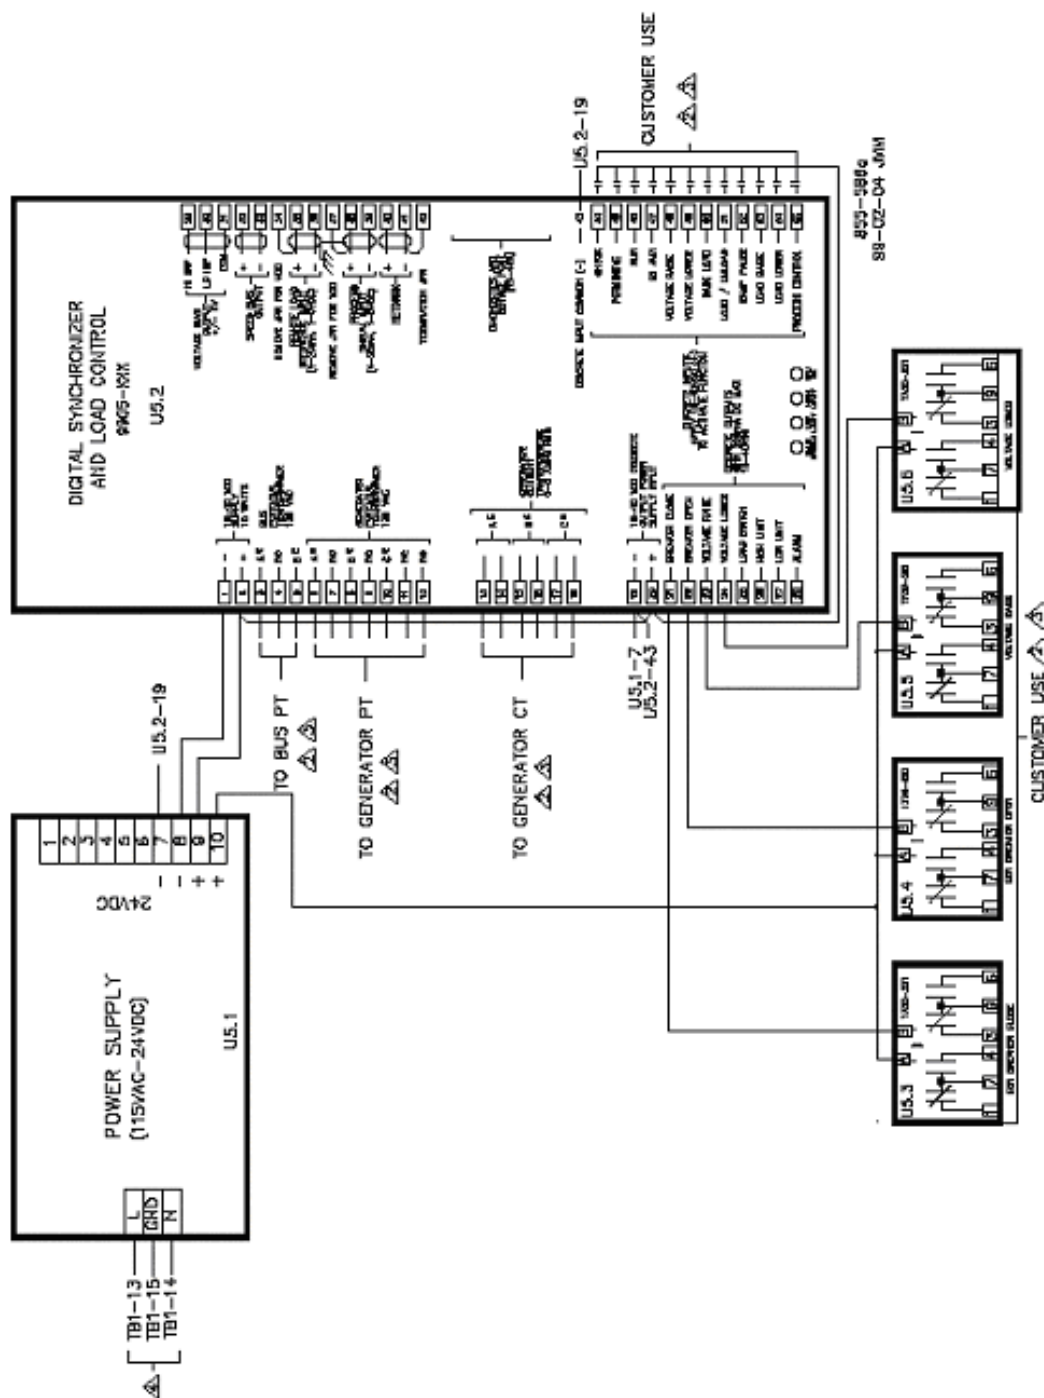

Figure 8-4. DSLC Control
This device is used with generator applications only. The DSLC is a microprocessor-based generator load sharing control designed for use on three phase ac generators with Woodward speed controls and automatic voltage regulators. The DSLC is a synchronizer, an isochronous load sharing control, a dead bus closing system, a VAR/PF control, and a process control, integrated into one package. The DSLC provides either phase match or slip frequency synchronizing, and ties into the unit automatic voltage regulator to match voltages before paralleling. It interfaces with the control via a speed bias signal to control generator frequency and phase (see Figure 8-4).
2. Drill and tap the mounting holes for appropriate size hardware (see Figure 8-4).